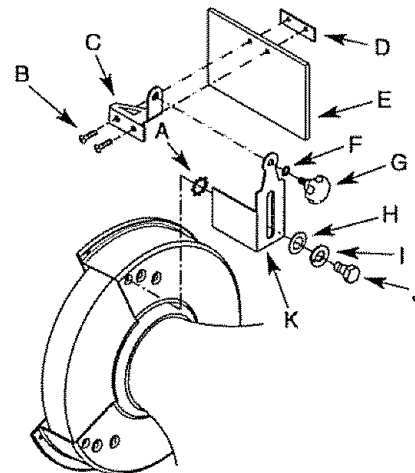

Figure 2 - Eyeshield Assembly
Parts to be assembled should be located and accounted for (See List and Figure 2).
Refer to Figure 2, page 3.
- This tool is equipped with an approved 3-conductor cord rated at 300V and a 3-prong grounding type plug (Figure 2) for your protection against shock hazards.